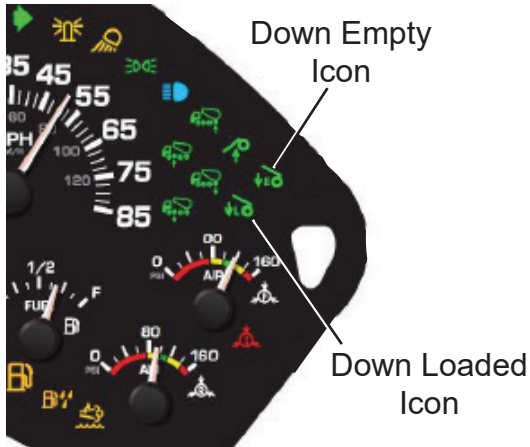

Figure 2 - Instrument Panel
- Added flashing down empty and down loaded lights on the instrument panel which will display when the vehicle is traveling greater than 15 MPH with the LSTA in the UP position, see Figure 2.